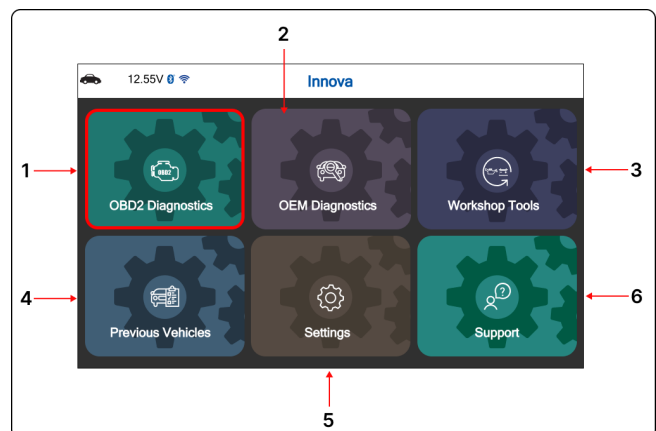

Figure 3. Home Screen
See Figure 3 for the explanation of items 1 through 6, below: